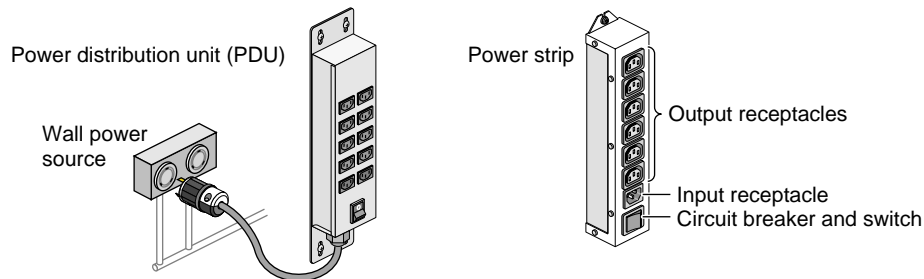

Figure 2-21 Power Distribution Unit and Power Strip
- **One or two power distribution units (PDUs)** (see Figure 2-21). The second PDU is added to the system when more than 15 AC power receptacles are needed within the rack.
- **Power strip.** The power strip exists in the system when the system requires 11 to 15 AC power receptacles (see Figure 2-21).